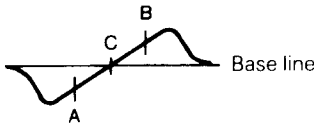

Fig. 9
2. Use the T202 core to form the S-curve shown in Fig. 9. Adjust the symmetry of A and B about point C for linearity..